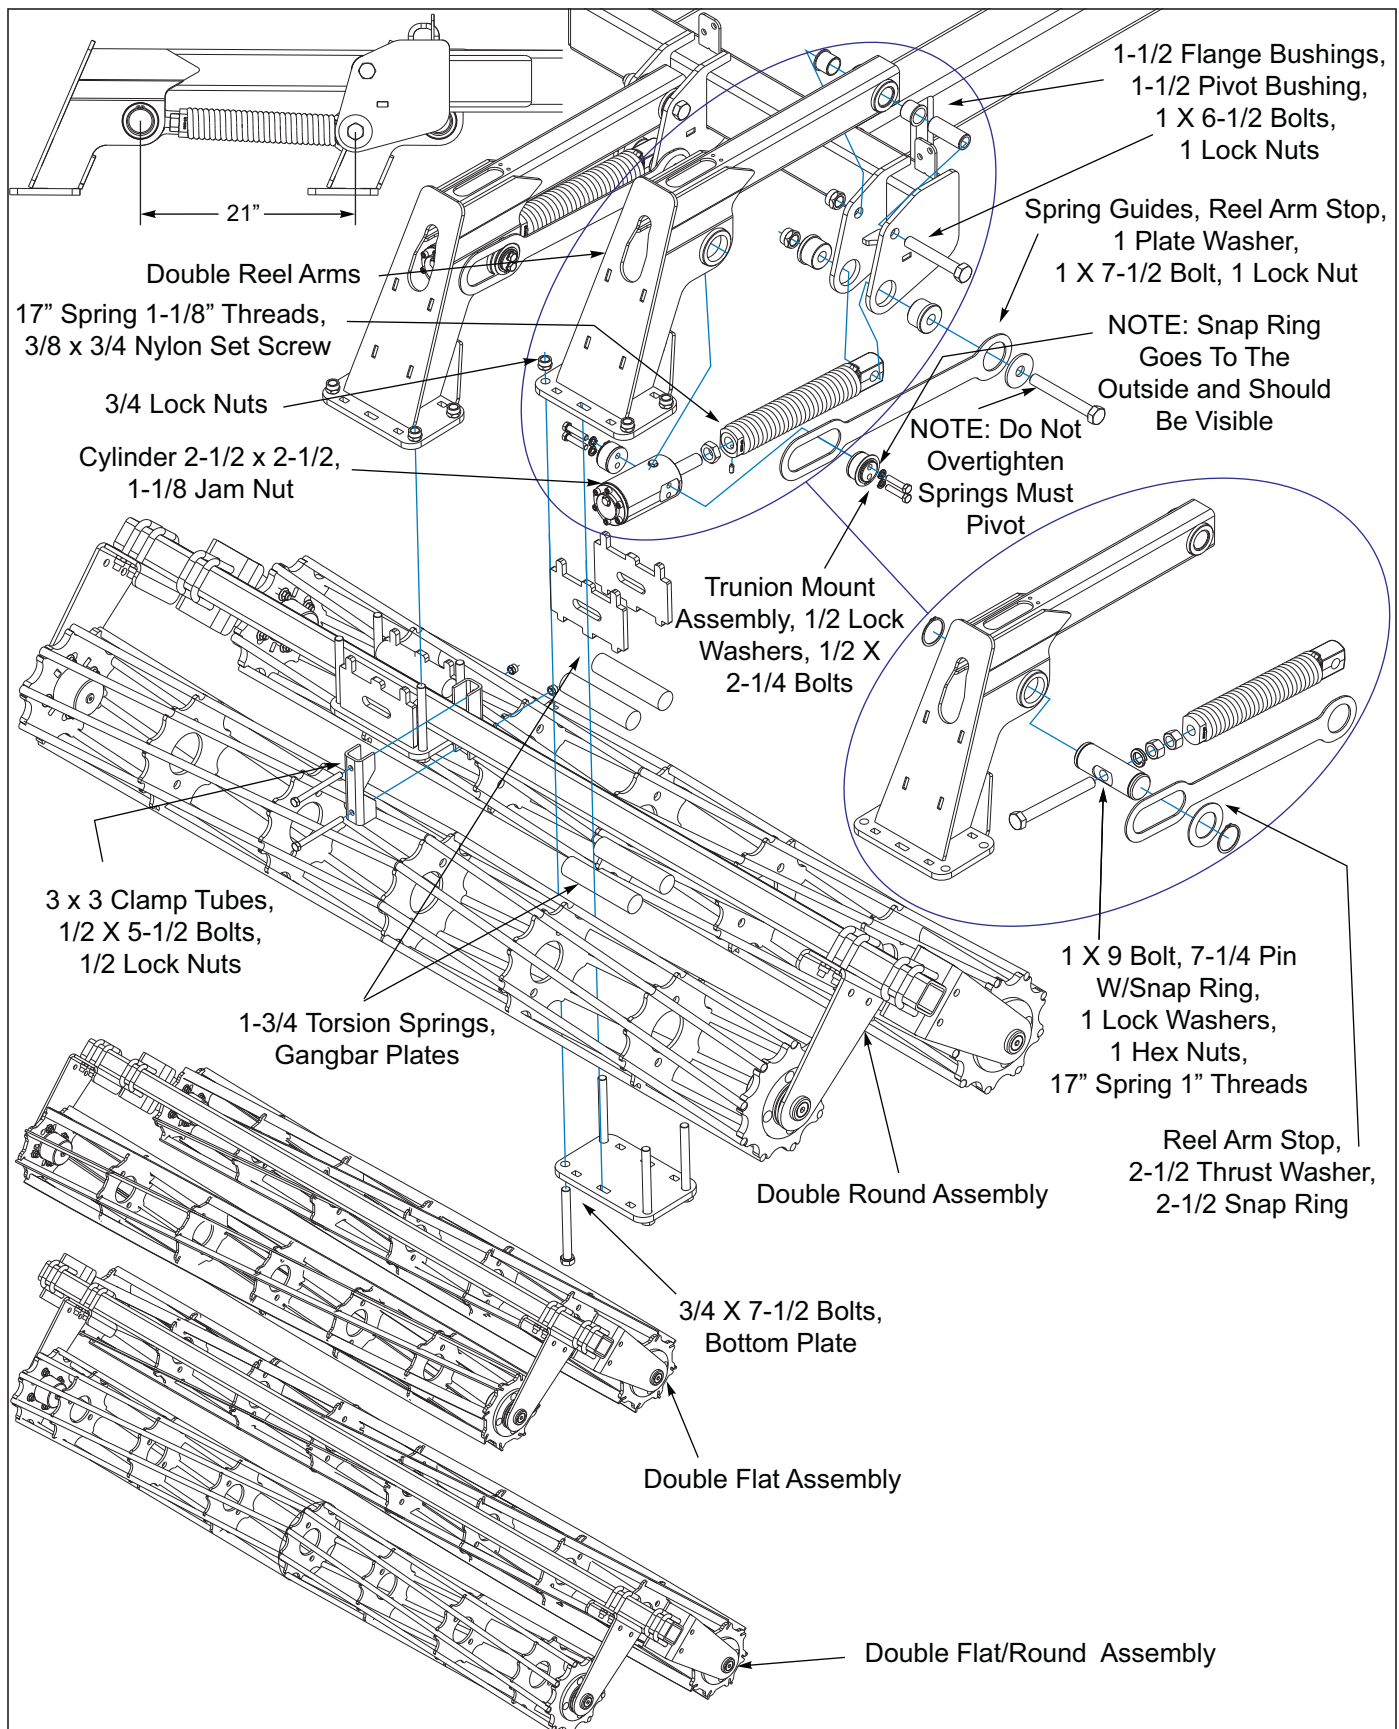

Figure 3-59: Double Reel Installation 7531-23'-32'
1. **For Standard Reel Option, See Figure 3-59.** Slide the adjustment pin through the rear of double reel arm. Center frame secure with (2) 2-1/2 snap rings, Wings slide slotted hole end of reel arm stop over outer side of LT/RT wings, 2-1/2 thrust washer and 2-1/2 snap ring, both sides.
2. Assemble the 1 x 9 bolt through adjustment pin, 1" lock washer, (2) 1" hex nuts, and 17" spring (1" threads) assembly.
6. Set pin centers to 21" dimension as shown **See Figure 3-59.**
7. **For hydraulic reel option See Figure 3-59.** Attach the cylinder 2-1/2 x 2-1/2, 1-1/8 jam nut, and 17" spring (1-1/8" threads) to rear of double reel arm. Center frame secure with trunnion mount assembly, 1/2 lock washers, 1/2 x 2-1/4 bolts, both sides. Wings slide slotted hole end of reel arm stop over outer side of LT/RT wings, trunnion mount assembly, 1/2 lock washers, 1/2 x 2-1/4 bolts, both sides.
11. Attach double reel assembly to reel arms using (2) gang bar plates, bottom plate, (4) 1-3/4 torsion springs, 3/4 x 7-1/2 bolts and 3/4 lock nuts as shown in **See Figure 3-59.**
12. Install the front and rear gang bar plates into the bottom plate with the longer tabs positioned upwards. Install (2) 1-3/4 torsion springs and position under reel gang bar, while lifting gang bar up close to double reel arm. Before the upper tabs engage slide in the top (2) 1-3/4 torsion springs. Insert the 3/4 x 7-1/2 bolts from the bottom upward and tighten alternating corner to corner until plates are tightly clamped together.
13. Attach the 3 x 3 clamp tubes, 1/2 x 5-1/2 bolts and 1/2 lock nuts on wings as shown **See Figure 3-59.**